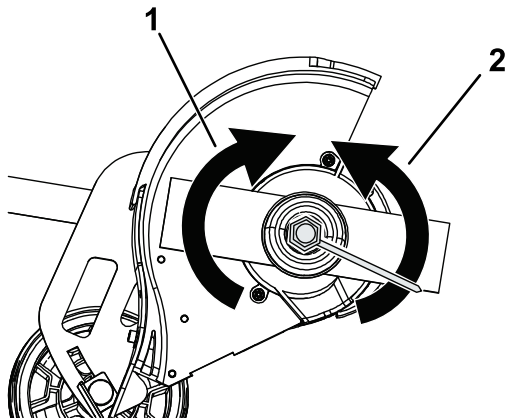

Figure 13
3. Remove the blade nut by turning it clockwise using the wrench provided (Figure 13).
6. Tighten the blade nut by turning it counterclockwise with the wrench provided (Figure 13).